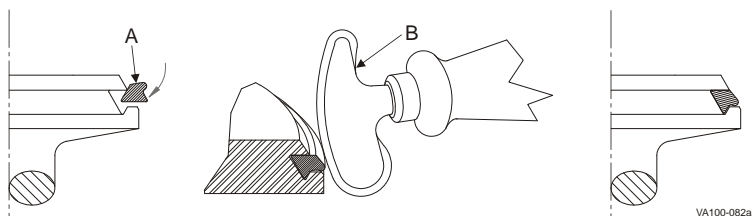
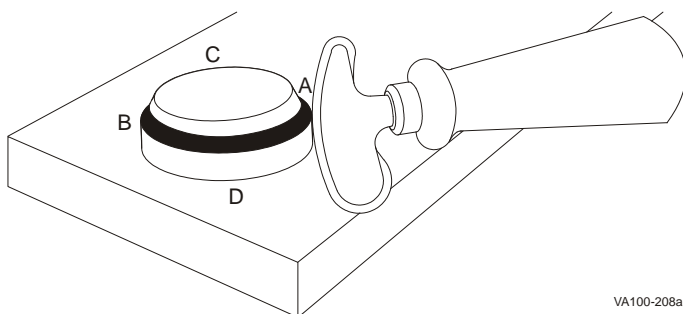

Figure 30: Installing New Tri Ring Seat
Figure 31: Pressing Tri Ring Into Plug
3. Lubricate the new Tri Ring (Figure 30, item A) with acceptable cleansing solution or lubricant.
5. Start the Tri Ring as shown in Figure 30.
6. Using the installation tool, part number 102797+ (Figure 30, item B), press the Tri Ring into the plug at locations A, B, C, and D Figure 31. If the tool is not used, DO NOT use a knife or any other sharp item that will tear or cut the Tri Ring.
8. When properly installed, the Tri Ring seat lip will protrude slightly from the seat edge as shown in Figure 30.